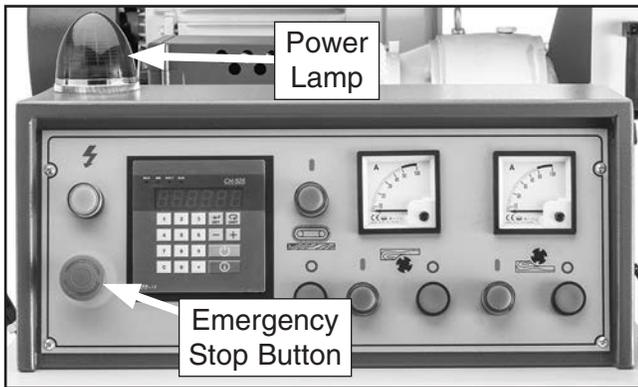

Figure 26. Location of Emergency Stop button and power lamp.
4. Push Emergency Stop button on control panel (see **Figure 26**).
5. Connect machine to power source (refer to **Power Connection** on **Page 27**). Power lamp (see **Figure 26**) on control panel should illuminate to indicate power is connected.
14. Push Emergency Stop button on control panel (see **Figure 26** on **Page 29**) and wait 30–40 seconds for cutterheads to come to complete stop.